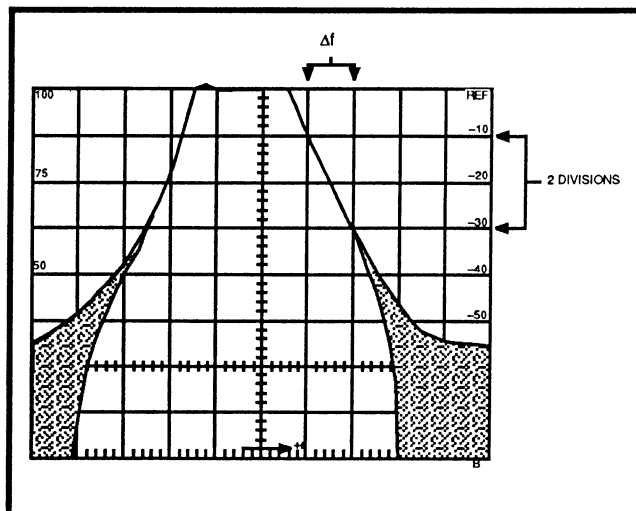

Figure 3-4. Determining vertical scale factor for the FMtest.
c. Tune the signal so that the filter slope can be measured on the most linear portion of the filter response. See Figure 3-4. Make a note of the frequency delta over 2 vertical divisions. The ratio of the frequency delta to 2 divisions then is the vertical scale factor for this measurement, $\Delta f/2$ kHz/Div.